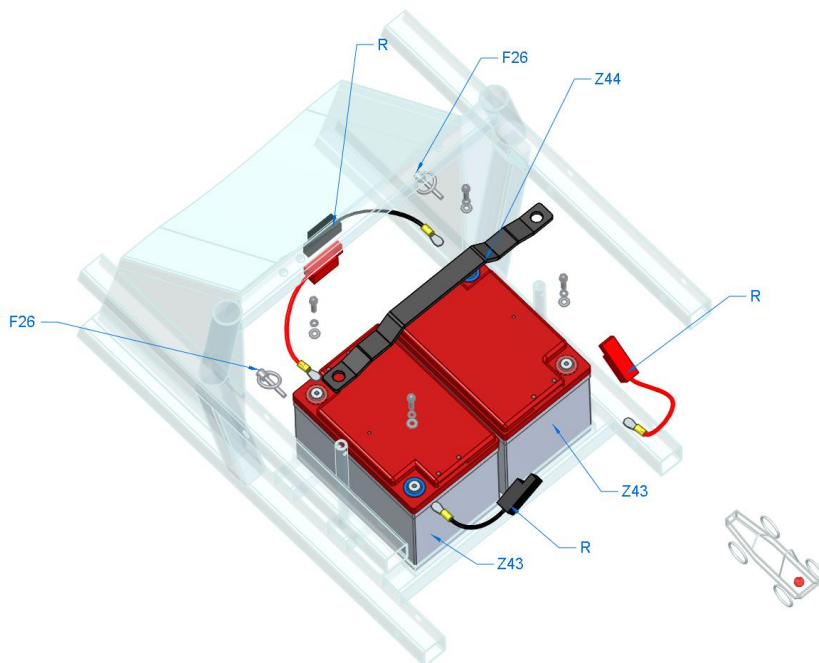

Figure 6.4.13
- i. Use the screws and washer on the battery terminals to screw down the 2 red and 2 black Quick connectors (Z39) to the batteries. The red connects to the positive pole and the black to the negative pole of each battery. See Figure 6.4.13. **Do not allow anything to touch both the positive and negative terminals of the battery. This includes metal items, arms, hands, tools...**